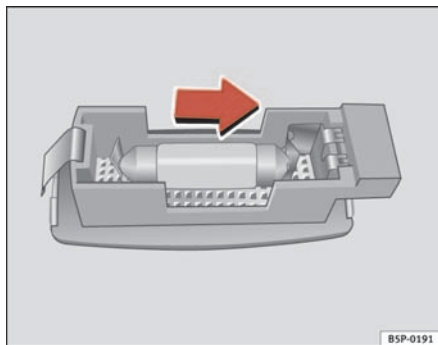

Fig. 171 Removing sunroof light
- Remove the lamp, moving it in the direction of the arrow and outwards ⇒ fig. 171.